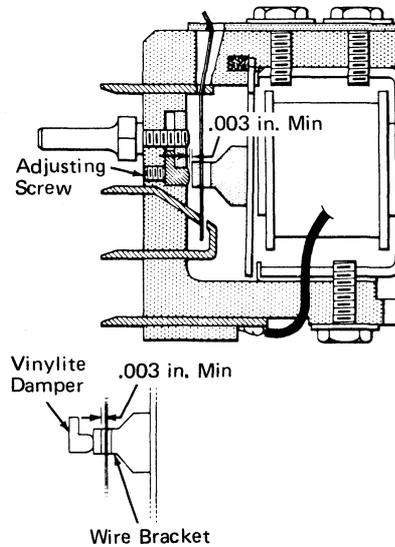

Figure 2-11. Damper Position
6. The damper screw is adjusted at the factory for minimum armature release bounce and the specified operate time. The relays must have a minimum of .003-inch clearance between the damper and the wire bracket. When this clearance is being measured, the wire bracket must be against the wires but must not move them (Figure 2-11).